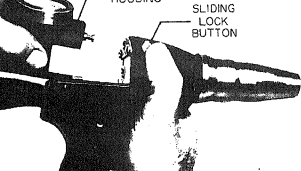

Figure 4. Removing Drive Roll Housing
1. Press down lock button (Fig. 4) on right side of handle and slide off drive roll housing.
a. Press down lock button (Fig. 4) on right side of Gun. Slide off drive roll housing.